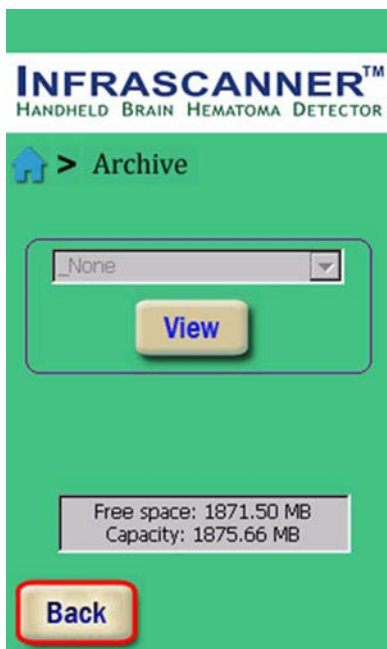

Figure 5-12: Archive Screen
- b. To view archived measurements click on "View" button, as shown in Figure 5-12.